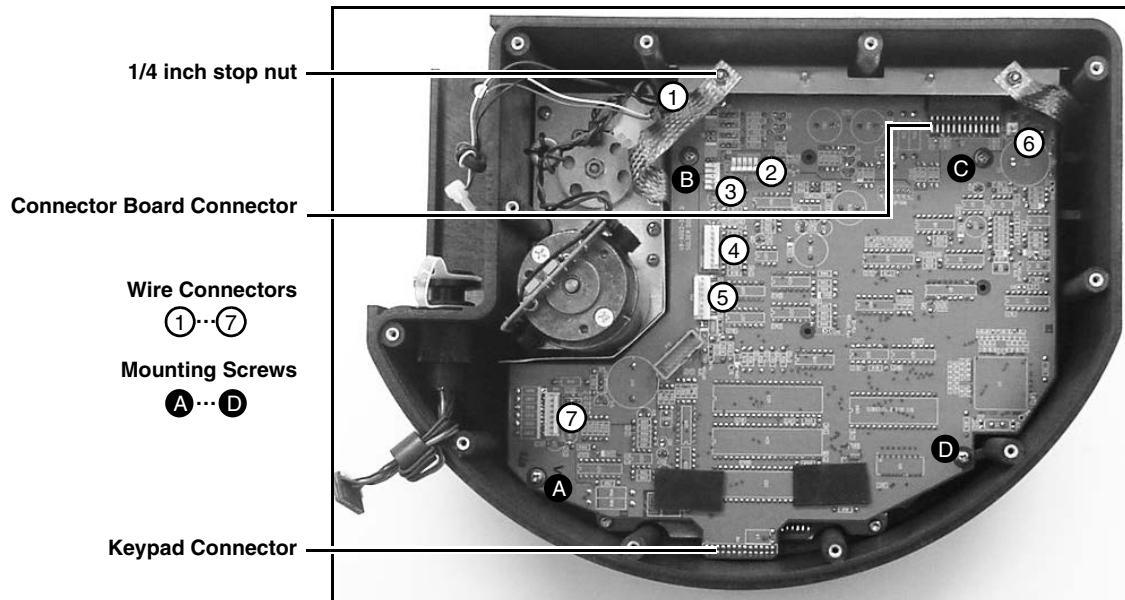

Figure 9-7 Main Circuit Board Connections
3. Remove the grounding strap by loosening the  $\frac{1}{4}$ -inch stop nut (Figure 9-7).
4. Disconnect the remaining connectors from the main circuit board (Figure 9-7).